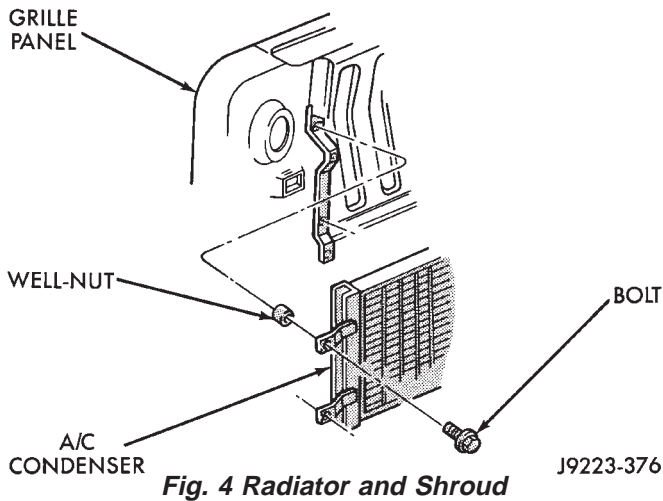

Fig. 4 Radiator and Shroud
(3) If equipped, remove the retaining bolts and separate the A/C condenser from the grille panel (Fig. 4).
(8) If equipped, install the A/C condenser on the grille panel (Fig. 4). Tighten the retaining screws to 2